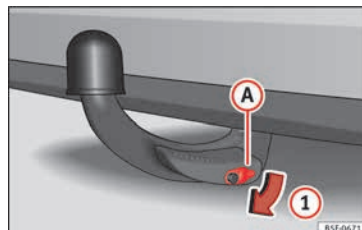

Fig. 226 Removing the lock cover
- Remove cover ① from the lock in the direction of arrow ① » Fig. 226.